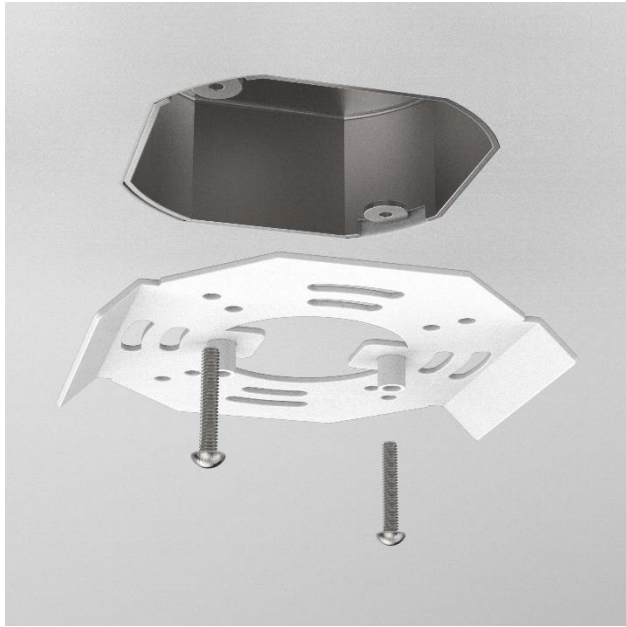

Figure 1
- Install the first mounting bracket directly to the ceiling electrical box using the provided screws. (Fig 1)